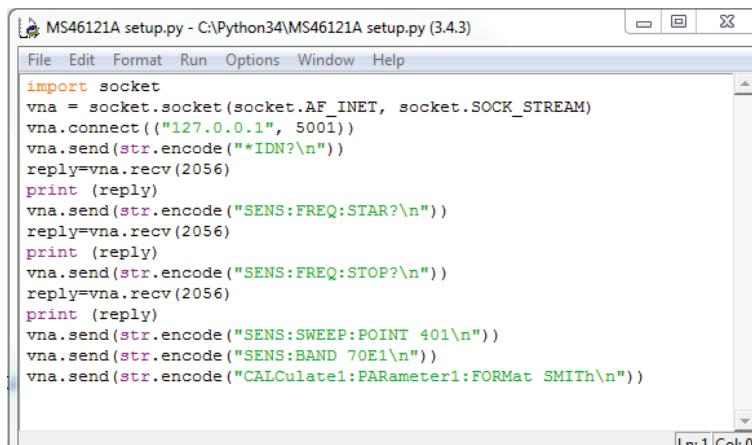

Figure 1-11. Execution of the MS46122A/B Python Script
8. The input of the script should look like Figure 1-11.